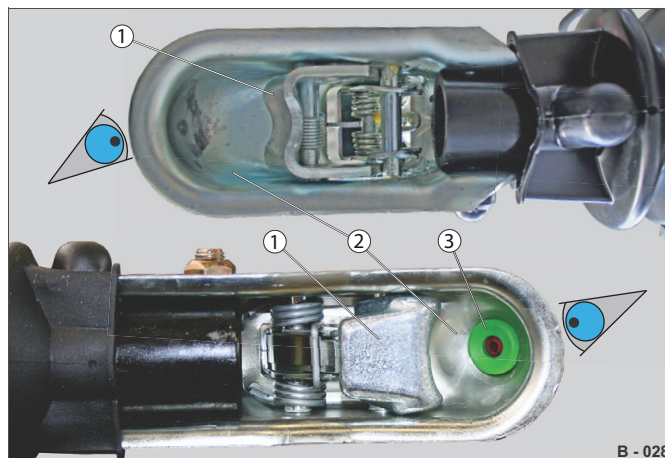

Fig. 6 Example: Ball coupling from below
- Regularly inspect the state of the coupling cup (Fig. 6 / 1) and the spherical cup (Fig. 6 /2).